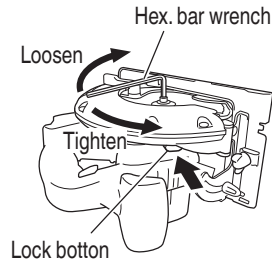

Fig. 6
- (1) Set the cutting volume at maximum, and place the Circular Saw as shown in Fig. 6.